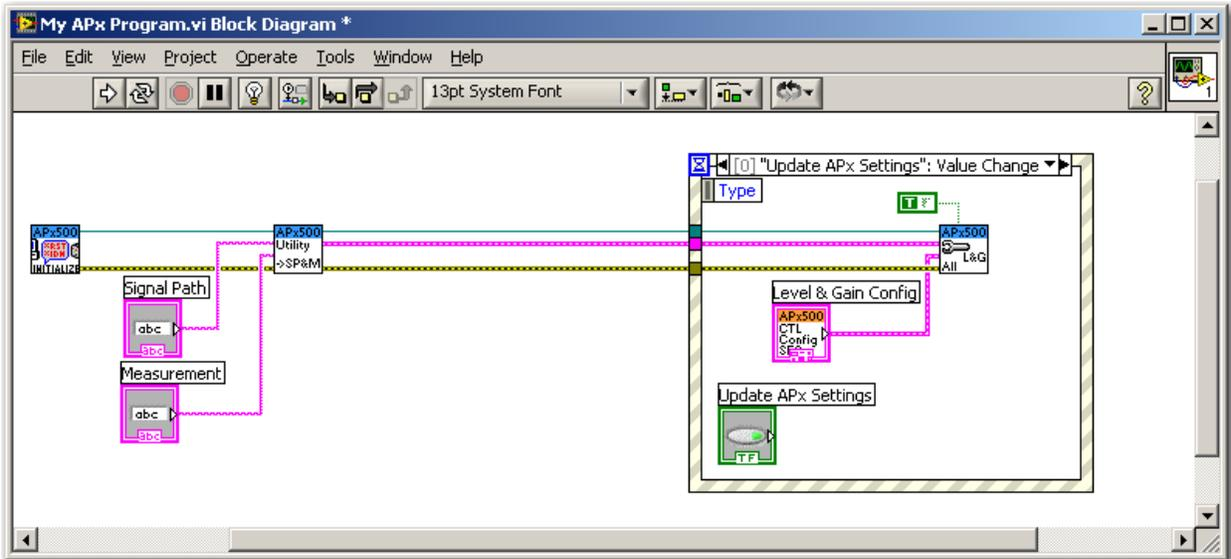

Figure 36
3. Add an Event Case around the *APx500 Config-Level & Gain GetSet All VI*, move the Update APx Settings control into that case, and change the event handled by the case to be a Value Change of the Update APx Settings control (Figure 36). When the modifications are finished, this will cause the configuration settings to be sent to APx when the button is pressed.